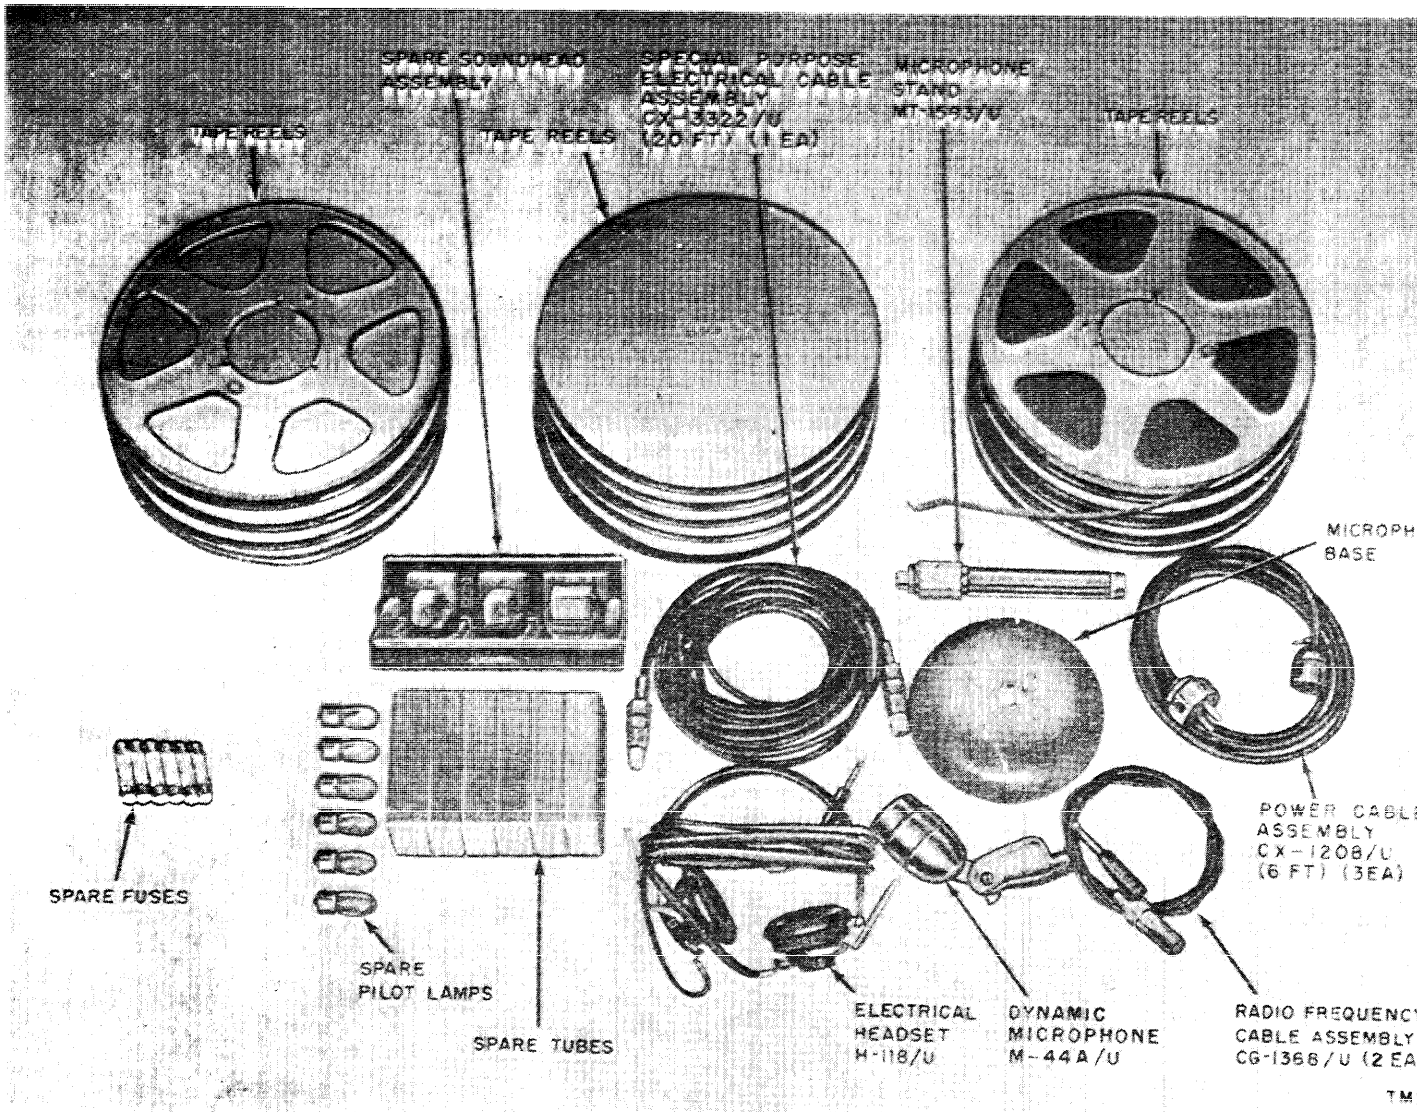

Figure 4. Sound Recorder-Reproducer Set AN/TNH-2A, accessories, running spares, and some components.
h. *Electrical Headset H-118/U* (fig. 4). The headset is a high-fidelity, dynamic-type, 600-ohm headset with a 5-foot connecting cord terminated with a telephone plug.
i. Power Cable Assembly CX-1208/U (6 ft 0 in.) (fig. 4). This cable assembly is a conductor, rubber-covered, 6-foot cable, one end of which is terminated with a female connector and the other end is terminated with a male connector.
j. Radio Frequency Cable Assembly CG-1368/U (fig. 4). This 6-foot, shielded, single-conductor, rubber-covered coaxial cable is terminated at one end in a female connector and at the other end in a telephone-type plug (PL-55).
k. Special Purpose Electrical Cable Assembly CX-3822/U (20 ft 0 in.) (fig. 4). This 20-foot two-conductor, shielded, rubber-covered cable is terminated on one end with a female connector and at the other end with a recessed male connector.